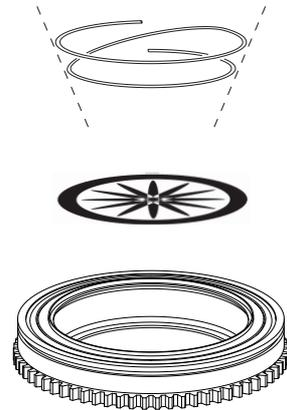
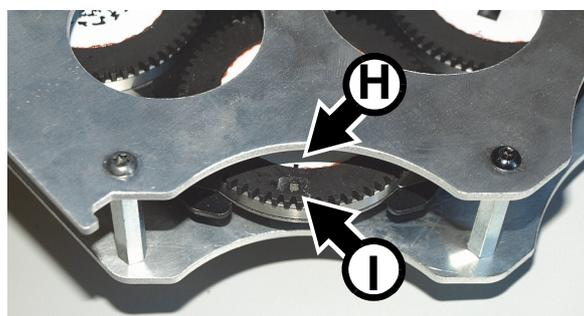
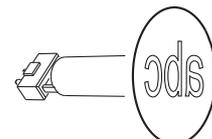

Figure 22: Rotating gobo holder
Figure 26: Correct gobo and holder orientation
Figure 27. Correct gobo orientation
Important! *The gobo can fall out if the spring is inserted backwards. Do not lubricate gobo bearings: excess grease can cause loss of step. Correct gobo orientation is critical. Read the guidelines in Figure 27 carefully before installing a gobo.*
- Check the spring and gobo orientation details in Figure 22 and Figure 27. Hold the gobo over the holder with the side that must face towards the lamp facing *upwards, towards the spring*. See Figure 26. Line up the mark **H** in the new gobo with the magnet **I** in the holder (the marks in gobos are also visible at the top of each gobo in Figure 14 on page 24).
- Place the gobo in the holder and insert the spring with the narrow end against the gobo as shown in Figure 22. To identify the narrow end, press the spring flat: the narrow end is on the inside. Push the end of the spring in under the lip of the holder.
The orientations shown in Figure 27 are correct in most cases, but consult your Martin dealer or gobo supplier if you are in any doubt about the orientation of a specific gobo type. To minimize the risk of heat damage, priority must be given to installing gobos with their more reflective sides facing the lamp.